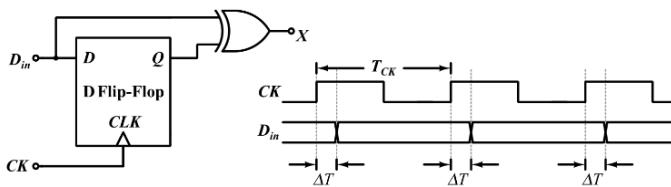

Fig. 5.31
32. In the circuit shown below in Fig. 5.31 a positive edge-triggered D flip-flop is used for sampling input data using clock CK. The XOR gate outputs 3.3 volts for logic HIGH and 0 volts for logic LOW levels. The data bit and clock periods are equal and the value of $\Delta T/T_{ck} = 0.15$, where the parameters ΔT and T_{ck} are shown in the figure. Assume that the Flip and the XOR gate are ideal.